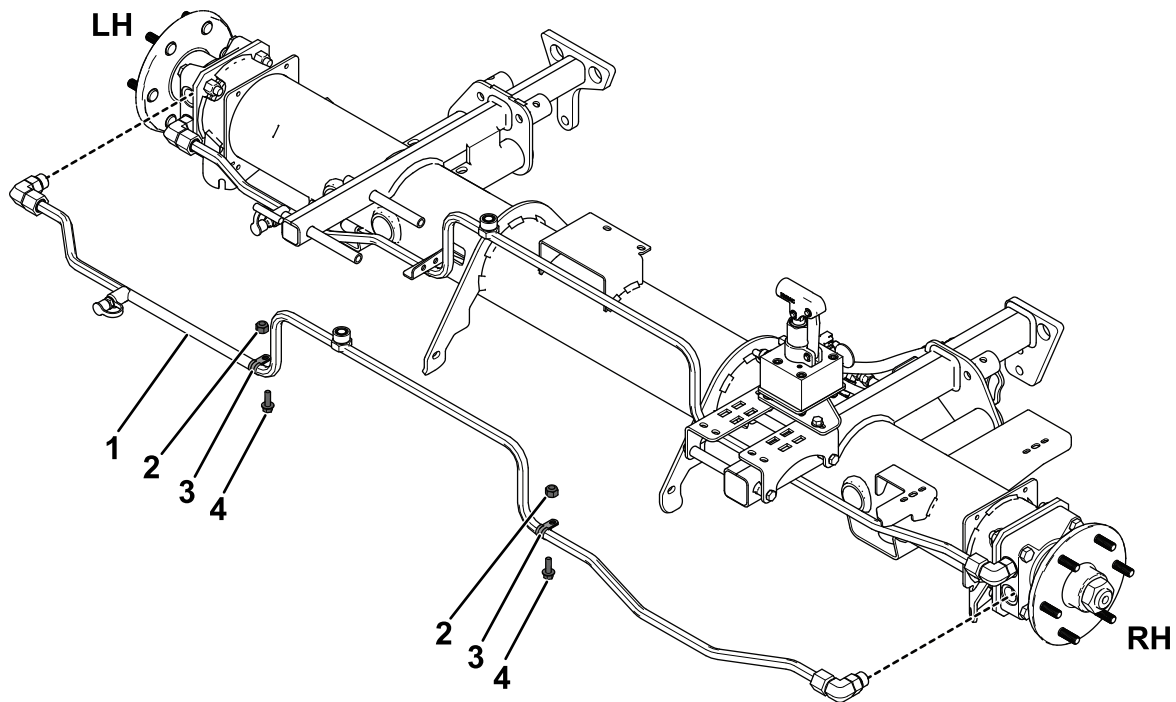

Figure 11
3. Disconnect the hydraulic tube from the top fitting on the front left wheel motor and the bottom fitting on the front right wheel motor (Figure 11).
4. Remove the R-clamps securing the tube to the frame (Figure 11).